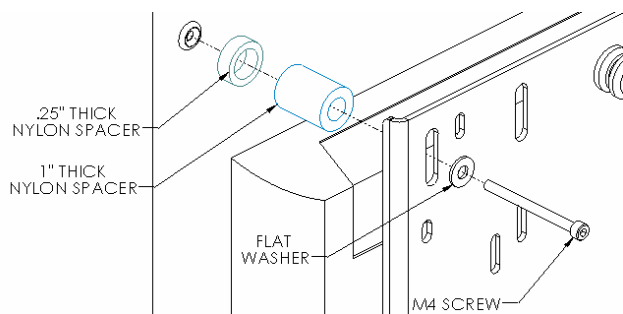
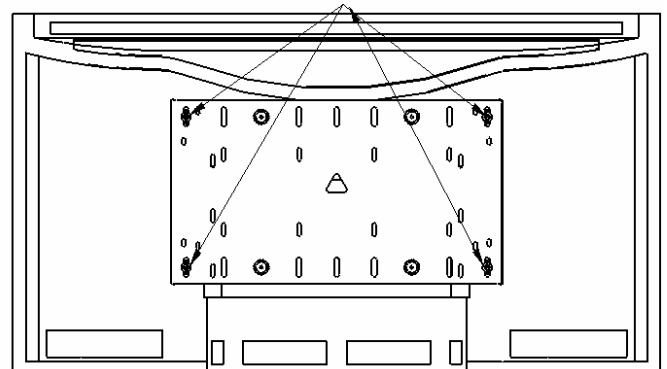

Figure 6
Figure 7
4. **Bracket Installation:** Attach bracket to back of display using the M4 screws, nylon spacers and flat washers (see Figure 6 & Figure 7). The vertical slots of bracket can be used for any height adjustment that may be needed. Do not over tighten screws.